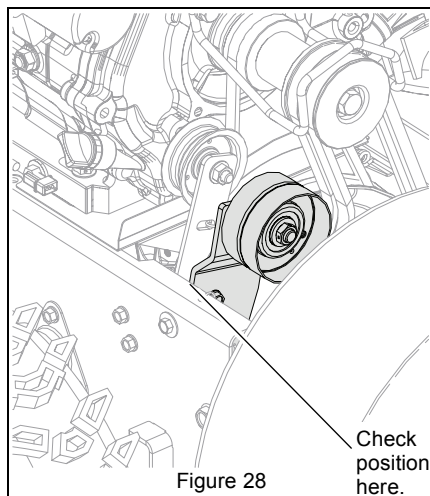

Figure 28
5. With the attachment clutch disengaged, make sure auger idler arm lightly touches the frame. See Figure 28.